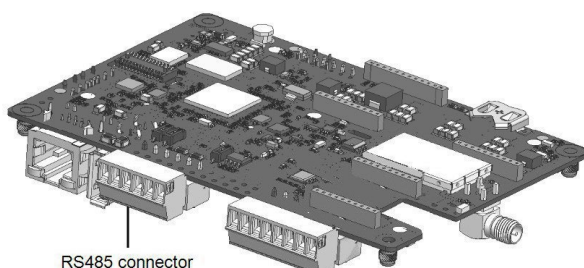

Figure 30: RS485 terminal block on the communication board
- c. Insert the eight wires into an RJ45 connector, as described in Figure 30.
7. For the switch/router side, use a pre-crimped cable or use a crimper to prepare an RJ45 communication connector: Insert the eight wires into the RJ45 connector in the same order as above (Figure 30).